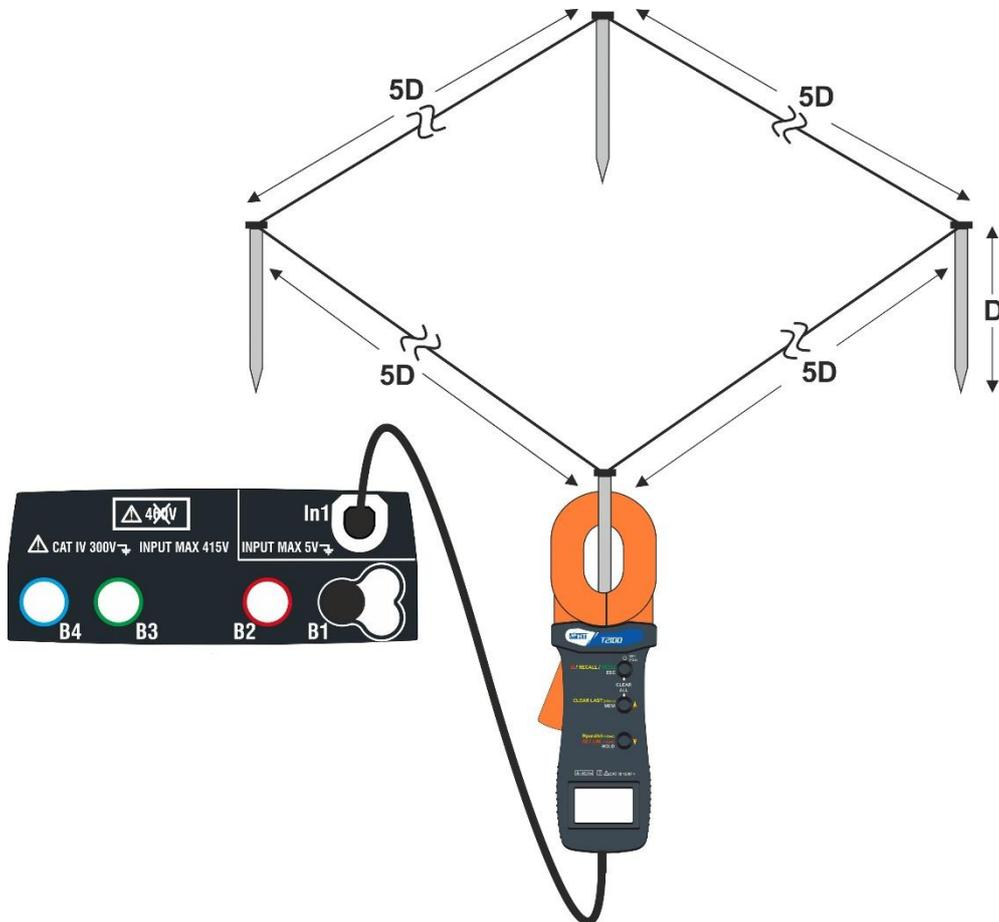

Fig. 32: Resistance measurement of single rods with clamp T2100
The measurement carried out by clamp T2100 can be used to evaluate single rods resistance values within an earth installation without disconnecting the rods, **assuming they do not affect each other** (see Fig. 32).
4. Connect the clamp to the first rod of the earth network considered as shown in Fig. 32. Note the value of the resistance in the R field and press the icon to insert this value in the calculation of parallel resistance and increase the N parameter by one unit ($N = 1$)